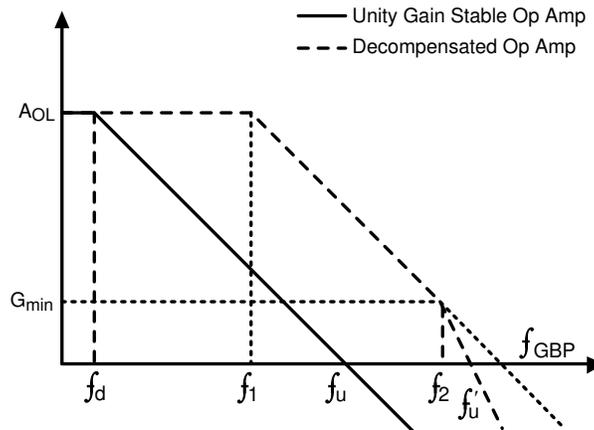

图 8-5. Gain vs Frequency Characteristics for a Unity-Gain Stable Op Amp and a Decompensated Op Amp
As shown in Figure 8-5, the dominant pole f_d is moved to the frequency f_1 in the case of a decompensated op amp. The solid A_{OL} plot is the open-loop gain plot of a traditional unity-gain stable op amp. The change in internal compensation in a decompensated amp such as the OPAx607-Q1, increase the bandwidth for the same amount of power. That is, the decompensated op amp has an increased bandwidth to power ratio when compared to a unity-gain stable op amp of equivalent architecture. Besides the advantages in the above mentioned parameters, an increased slew rate and a better distortion (HD2 and HD3) value is achieved because of the higher available loop-gain, compared to its unity-gain counterpart. The most important factor to consider is ensuring that the op amp is in a noise gain (NG) greater than G_{min} . A value of NG lower than G_{min} results in instability, as shown in Figure 8-5, because the $1/\beta$ curve intersects the A_{OL} curve at 40 dB/decade. This method of analyzing stability is called the *rate of closure method*. See the precision lab training videos from TI for a better understanding on device stability and for different techniques of ensuring stability.